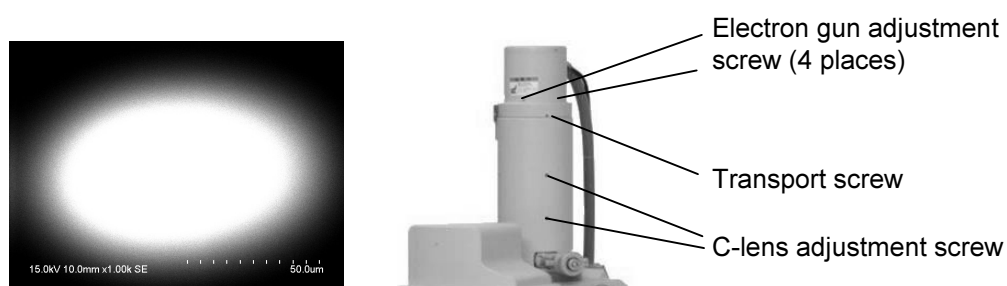

Fig. 4.8-2 Adjusting the electron gun mounting position
- (4) In **Filament Image**, select the **Beam Align Shift**. If the image is too bright or dark, adjust the contrast by using the M4 screw (using an M4 hex wrench) of the electron gun so that the bright spot is brought to the center of the screen. See Fig. 4.8-2 on the right. Be careful that the M4 screw is not confused with a transport screw or the C-lens adjustment screw. If the C lens adjustment screw is moved by mistake, the C-lens current center can shift, causing a significant change in system performance. The operation should be performed with great care to avoid this type of problem.
- (5) Fix the electron gun mounting position screws when the image in the **Filament Image** assumes the condition shown in Figure 4.8-2 on the left.